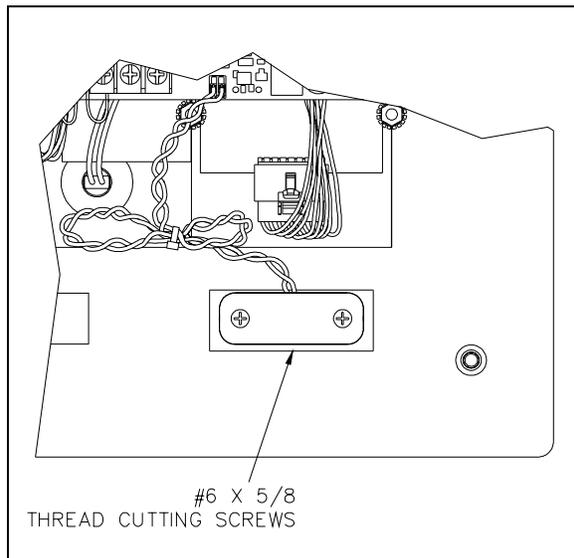
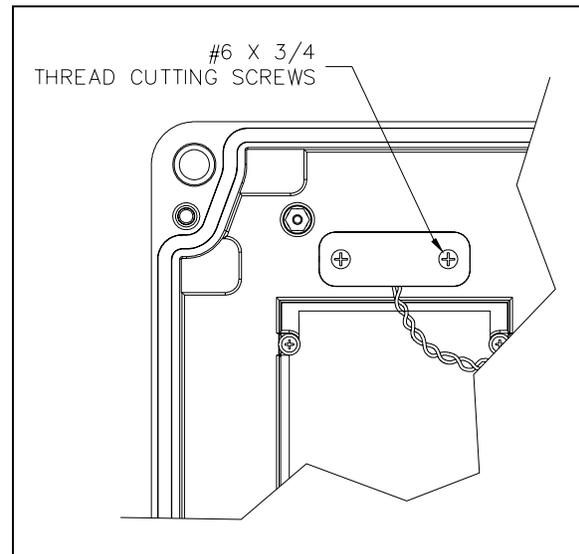

Figure 1. Microphone Location on
Figure 2. Microphone Location on
- Refer to Figure 1 and Figure 2 for the microphone locations for flush-mount and wall-mount telephone, respectively. Remove the two screws holding the microphone assembly in place, and retain them.